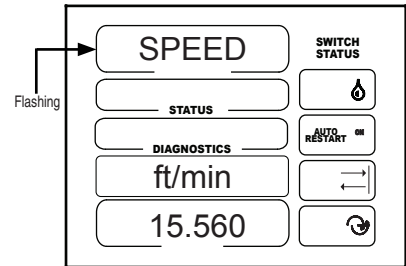

Figure 49-1
1. SPEED should be flashing. See figure 49-1.